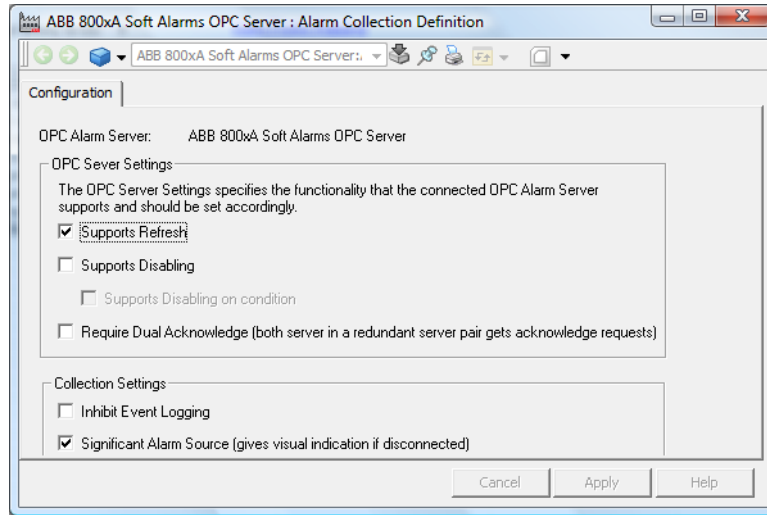

Figure 276. Alarm Collection Definition
1. Specify the appropriate settings for the OPC server, refer to Figure 276.